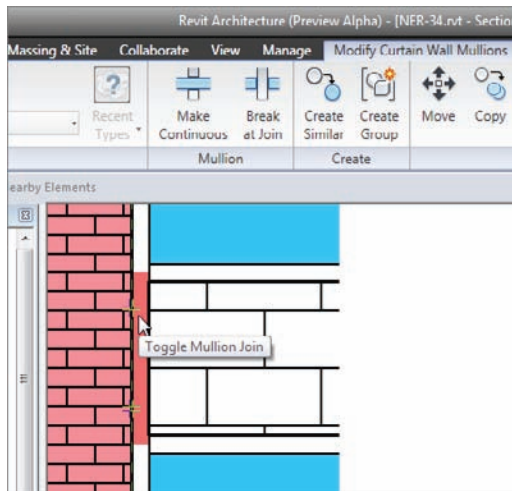

FIGURE 16.37 Selecting the mullion
1. Zoom into an area where the CMU meets the brick, as shown in Figure 16.37.
3. With the mullion selected, notice that you can either modify the join (as shown in Figure 16.37) or press the Delete key and remove the mullion. In this case, delete the mullion. Repeat the procedure for other similar areas.